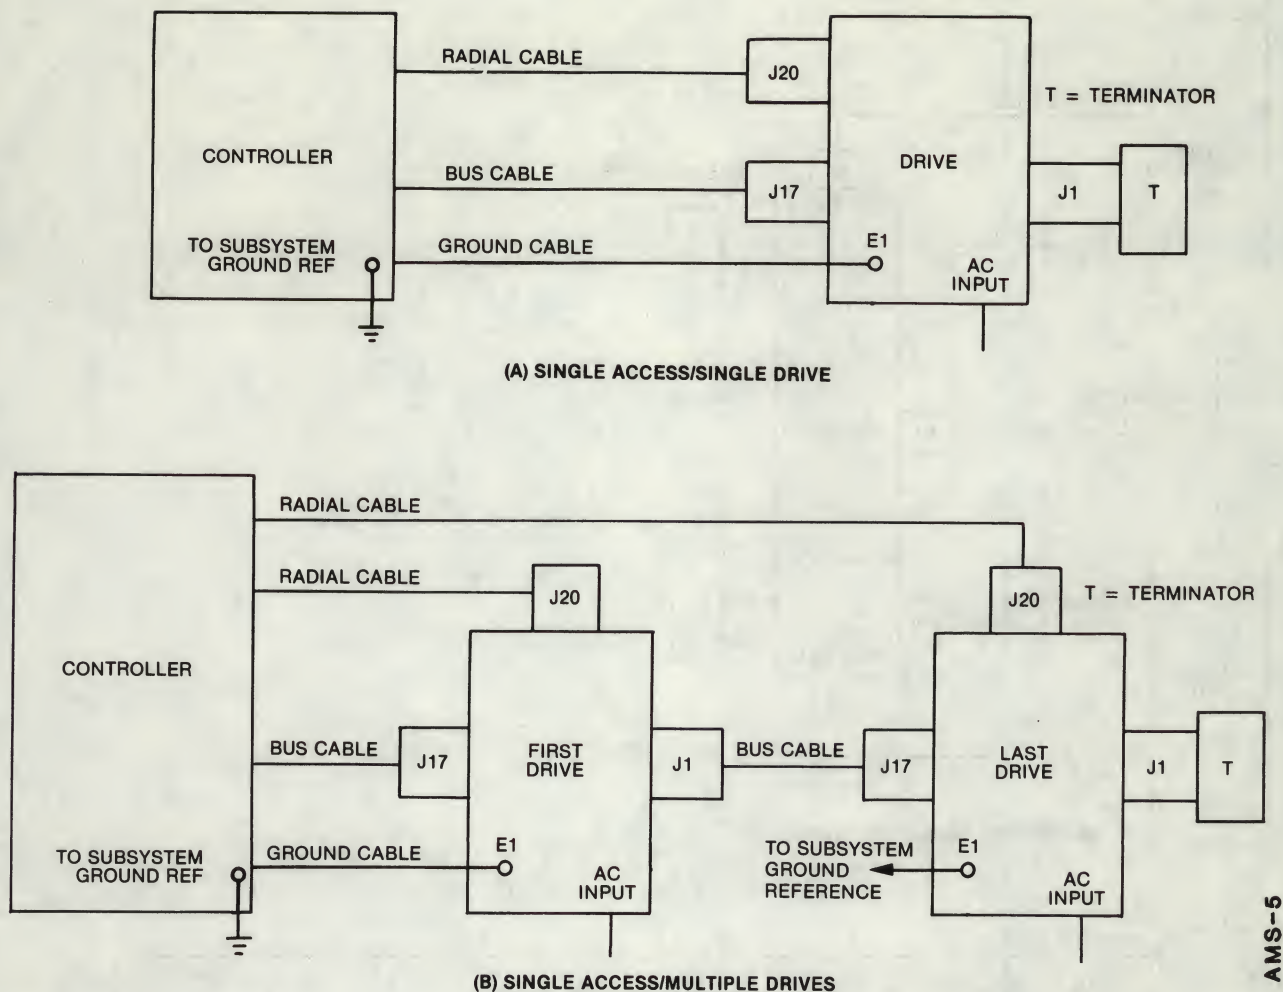
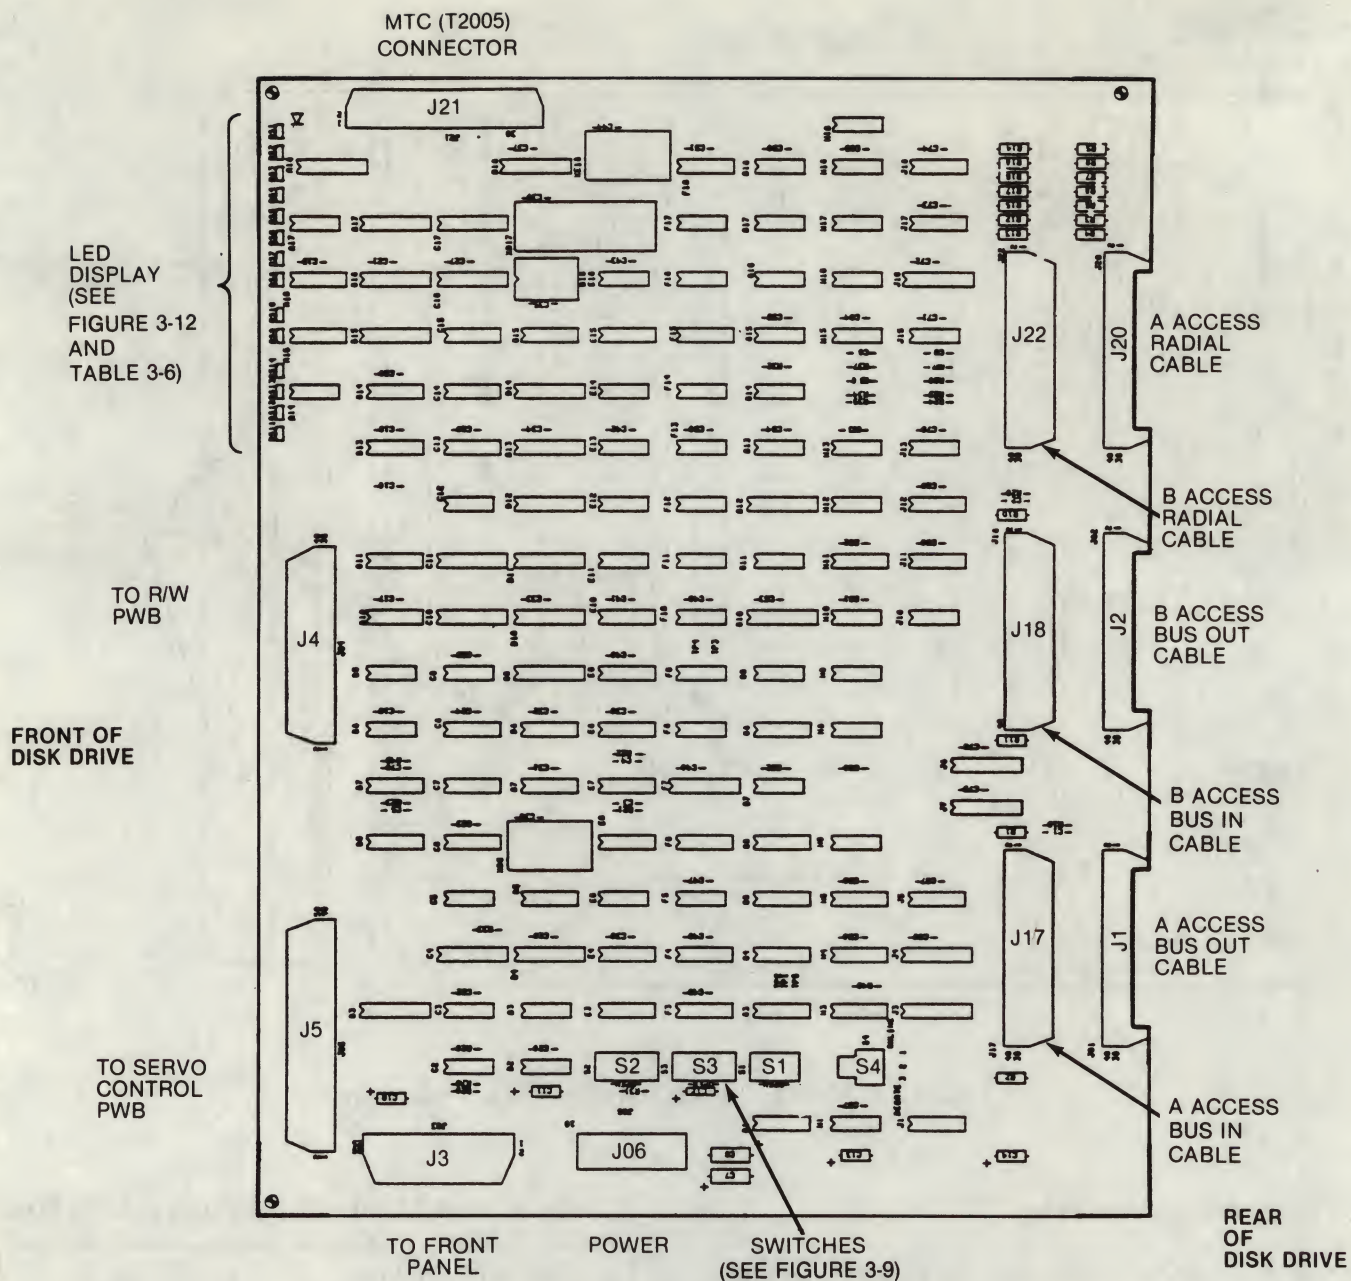
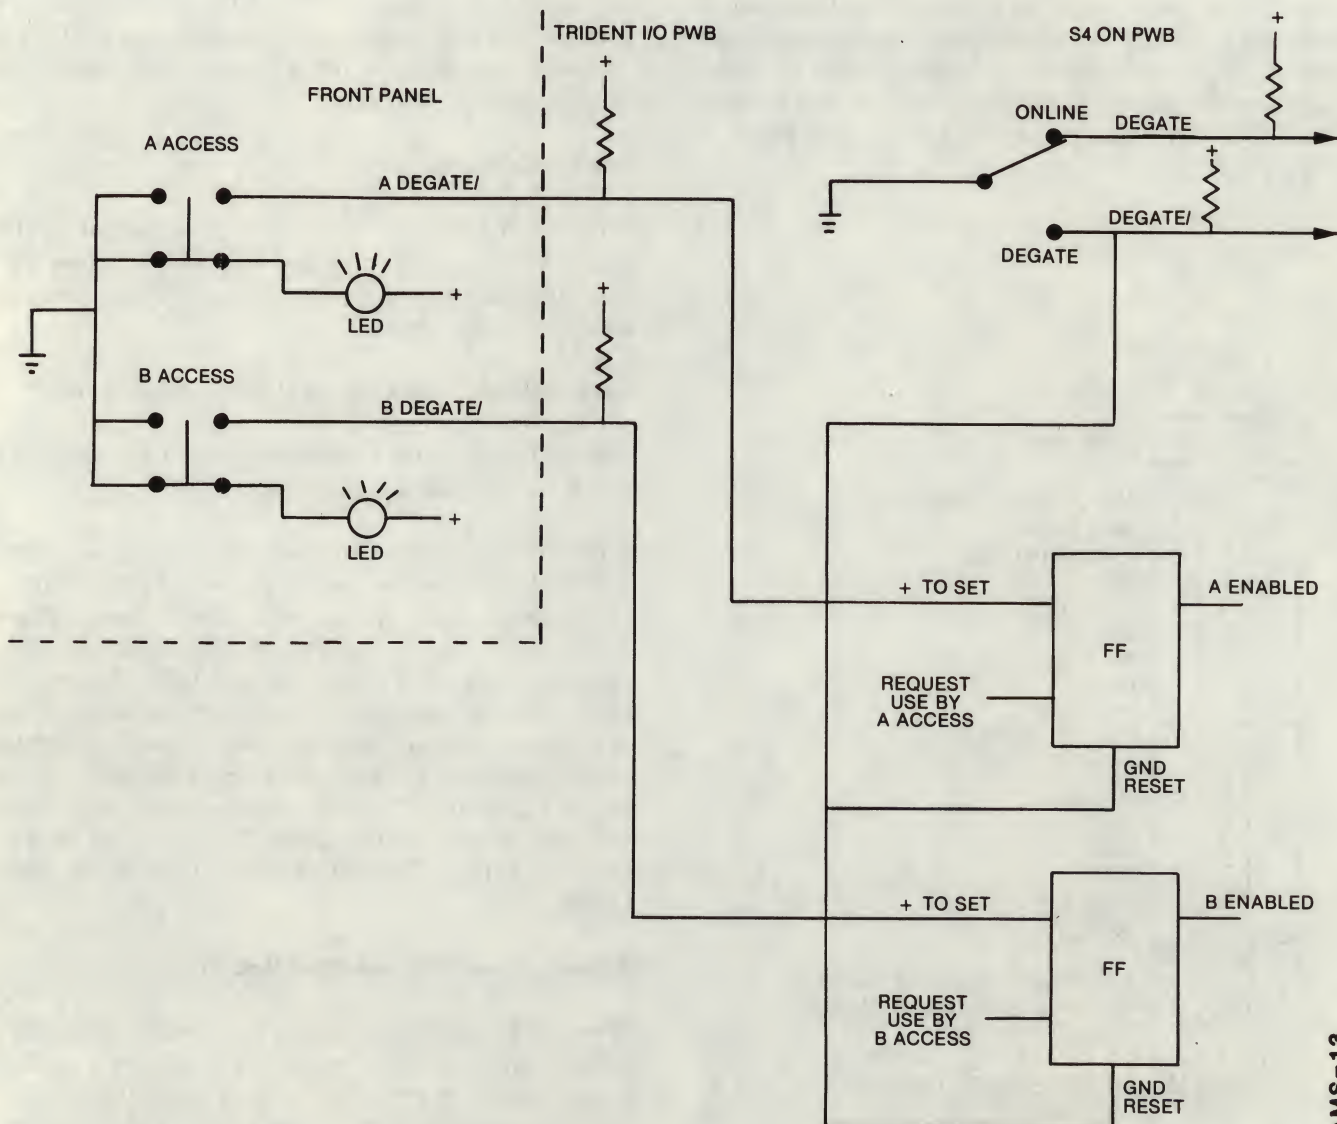

Figure 3-2. System Cable Diagram (Single Access)
Figure 3-5. Trident Dual Access I/O PWB
Figure 3-10. Trident Dual Access and Degate Switches
6. Connect the system cables as shown in Figures 3-2 or 3-3. The interconnecting cable connectors on the SMD I/O and Control PWB are shown in Figure 3-4. The Trident I/O and control PWB connectors are shown in Figure 3-5. When interfacing the disk drive to the system, it is necessary to terminate the BUS cable at the last drive on the line (see Figures 3-2 and 3-3). The terminator part numbers are shown in Table 3-1.
The system grounding point of each disk drive is referred to as E1 on Figures 3-2 and 3-3. Refer to Appendix A for appropriate system grounding methods.
Switch settings of switch blocks S1, S2, S3 and S4 (Figure 3-9) are similar to SMD version, however, they are located on the opposite side of the PWB (on left when standing at rear) (refer to Figure 3-5). There are 8 switches in S2 and S3, but only 6 in S1. Another toggle switch, S4, is also alongside the others. This is the interface Degate switch which degates both A and B interfaces. The functions of S1, S2 and S3 are shown in Figure 3-9.
seconds through the setting of these four switches. The four switches are arranged in a binary configuration with each increment being equal to 1.067 seconds. Also, the fail safe timer may be enabled for either A or B accesses, or both, utilizing S1-6 and S1-5. See Figure 3-10.
Switch S4, shown in Figure 3-5, will degate both interfaces on a dual access disk drive. Refer to Figure 3-10 for logical operation.